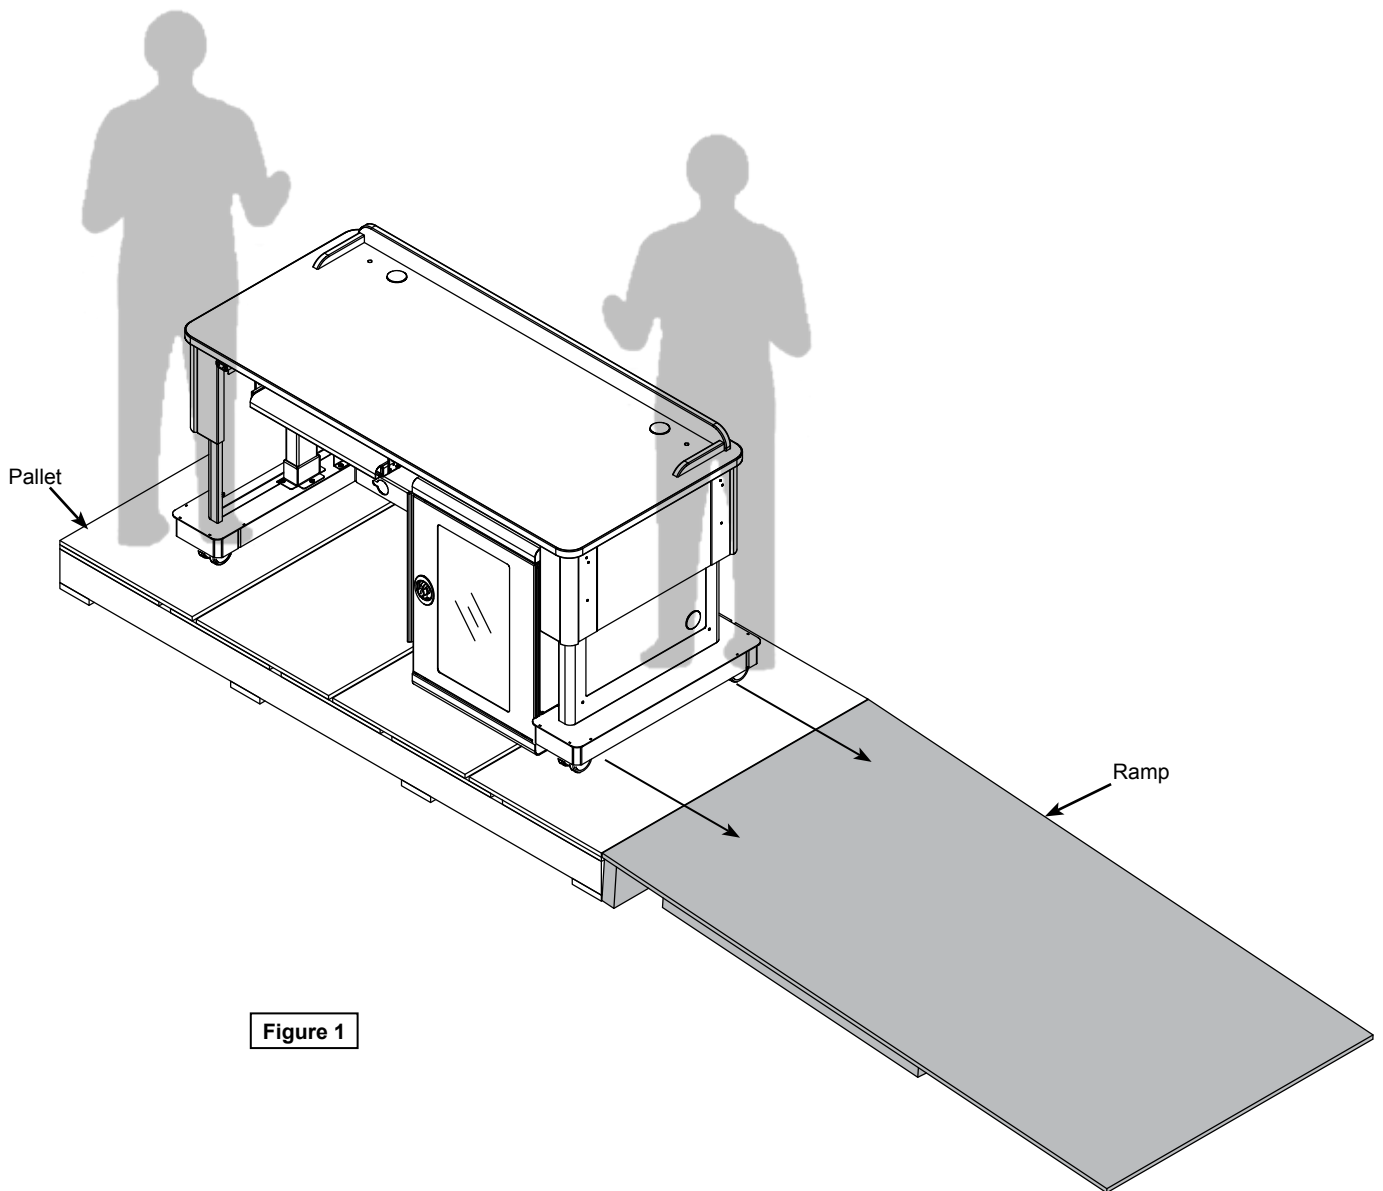

Figure 1
4. Remove plywood ramp from package. Place on floor next to the pallet. **Figure 1.** This will be used to unload the lectern off the pallet.